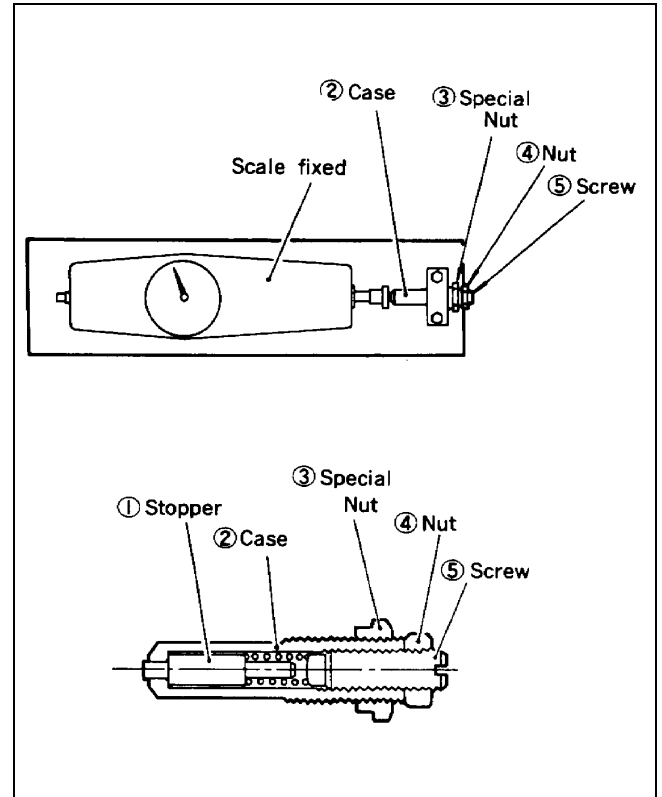
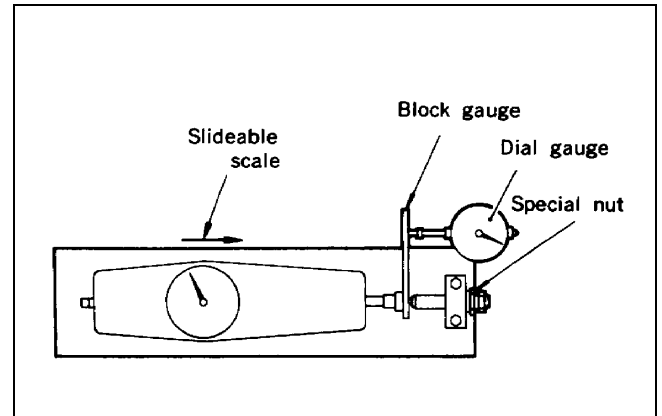

Figure 37
Figure 38
1. Assemble the torque spring set as shown in Figure 37.
3. Set dial on spring scale to zero (0). Tighten spring case until a value of  $1270^{+10}_{-0}$  grams is obtained. Lock the spring case in that position with special nut.
5. To inspect torque spring set for proper adjustment, use a test set up as shown (Fig. 38). Gradually push scale against torque spring set until stopper is moved (or pointer of dial indicator moves). Check that load applied to torque spring at that moment is  $1250^{+20}_{-30}$  grams.